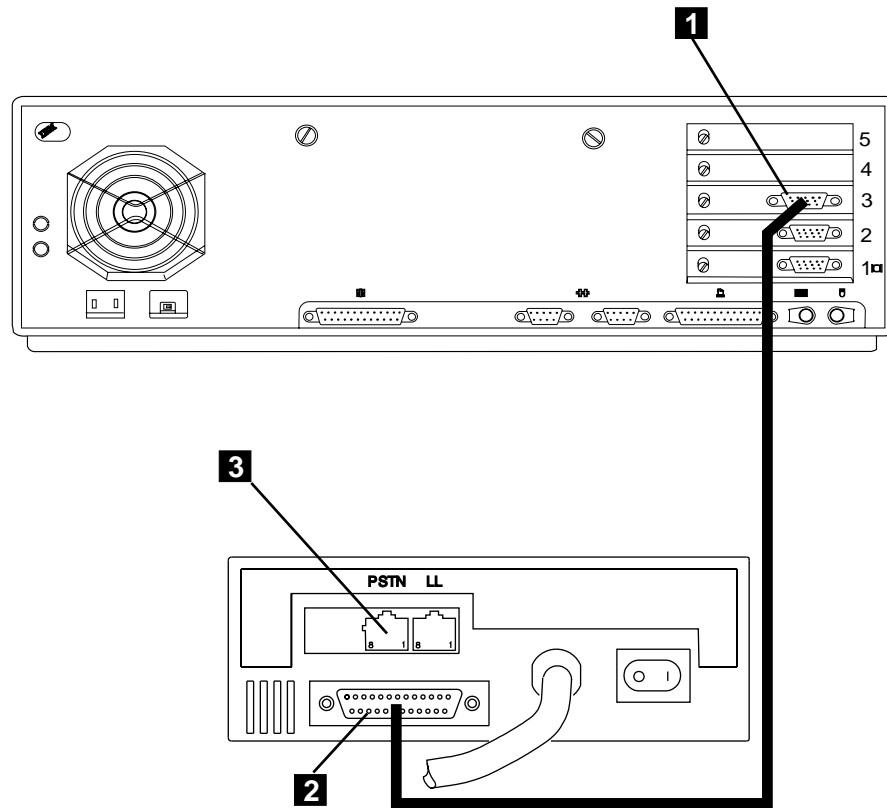

Figure 1-104. Connecting the Service Processor (9577) to the External RSF Modem
- **9577**, refer to Figure 1-104 on page 1-93.